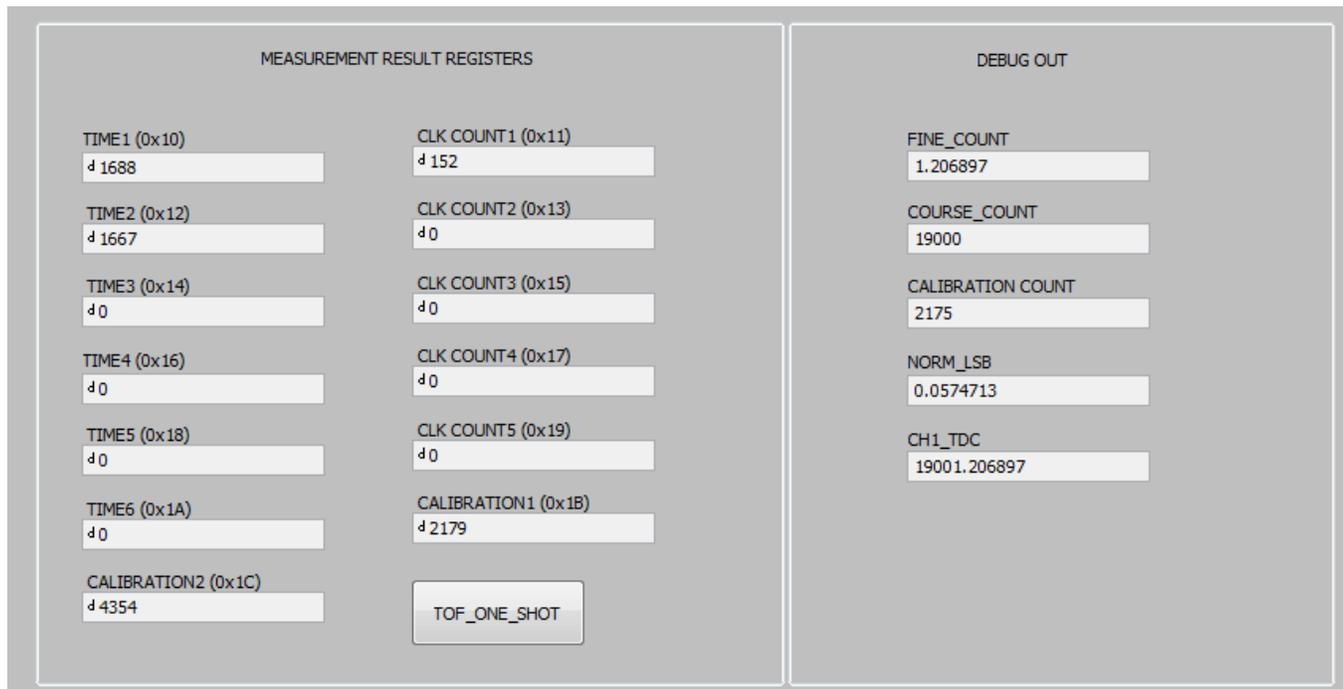

Figure 10. Measurement Results
- b. You should be able to see *similar* measurement results register values as shown in Figure 10 (assuming you follow the instructions as specified in Section 5.1).
- d. Use the values reported in the Measurement Result Registers (Figure 10) to validate the time-of-flight as approximately 19  $\mu$ s (assuming you follow the instructions as specified in Section 5.1).